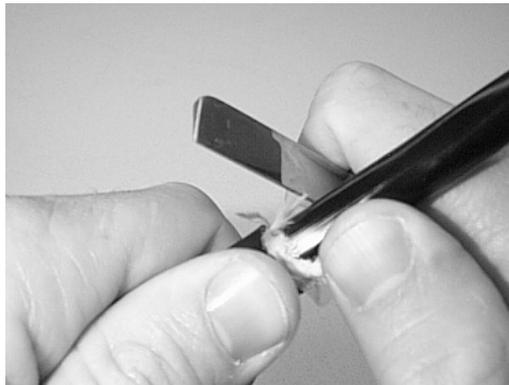

Figure 10 – Ring cut the inner cable jacket.
4.11 Measure and mark the inner sheath at the appropriate stripping length. Ring cut the cable at the measured mark lightly scoring the inner jacket (Figure 10).